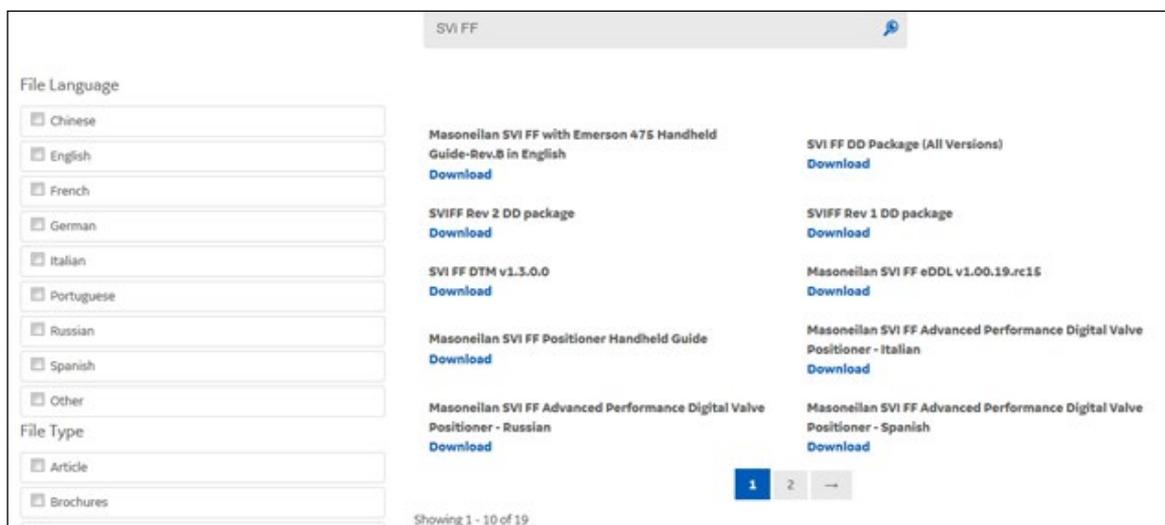

Figure 68 - Search Results
1. Enter *SVI FF* in the *Search* field and the screen below appears (Figure 68).